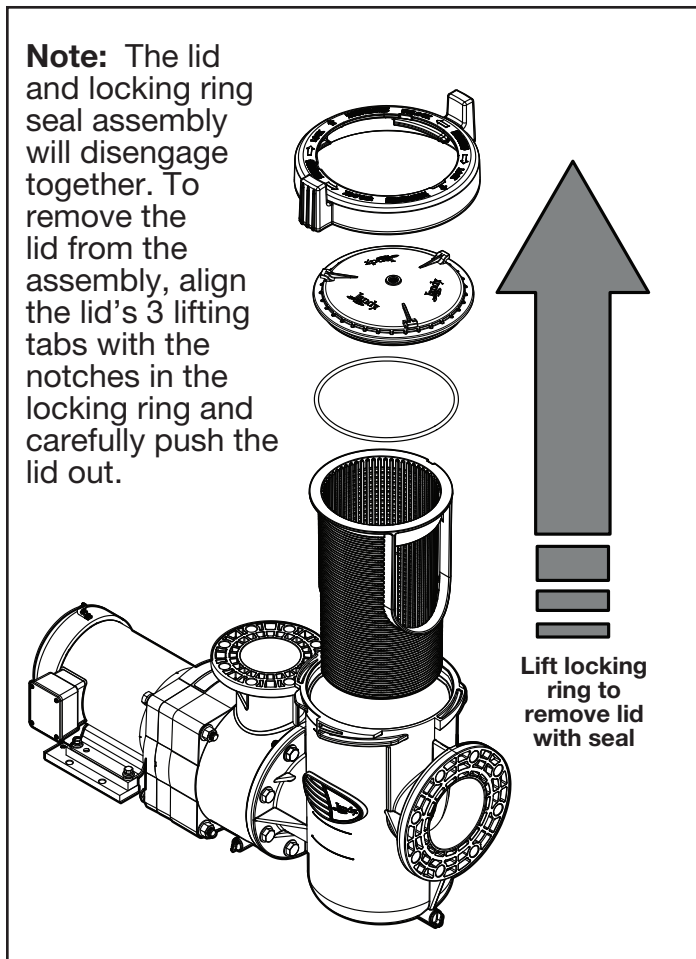

Figure 10. Exploded View of Pump
8. The strainer basket may be removed and emptied. Ensure the basket is lined up properly with the strainer's inlet port when placing the basket back into the strainer pot. See Figure 10.